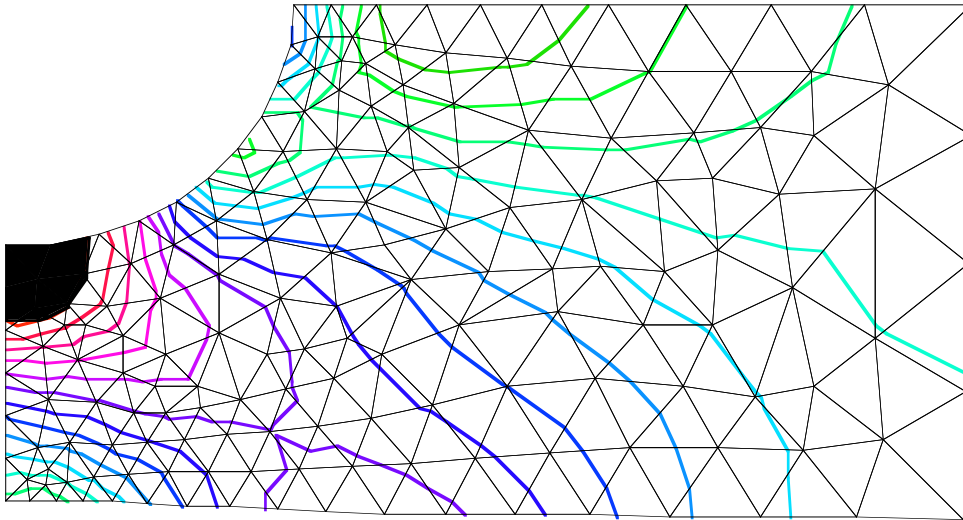
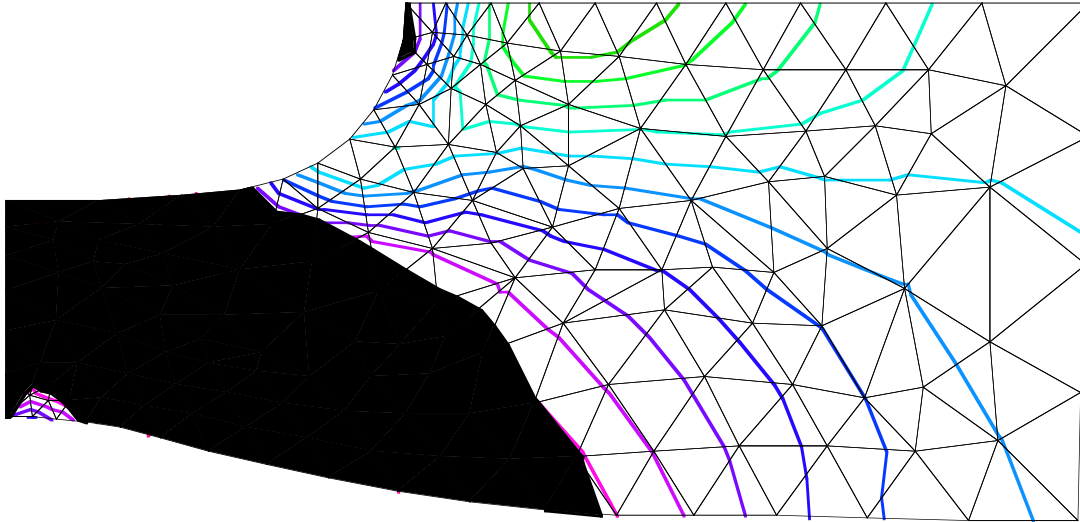

Fig. 3.7: 5th load increment
Fig. 3.9: 15th load increment
*Increment* from the *Nonlinear Calculation* dialog. Before executing the nonlinear calculations, you should draw the system once with the desired options, preferably after the elastic calculations and with *Yielding Zone* and *Stresses* selected. The following pictures (Fig. 3.7 to Fig. 3.9) show the state of the problem at selected load increments. The load process is divided into 15 increments and the displacements are enlarged by factor 20.